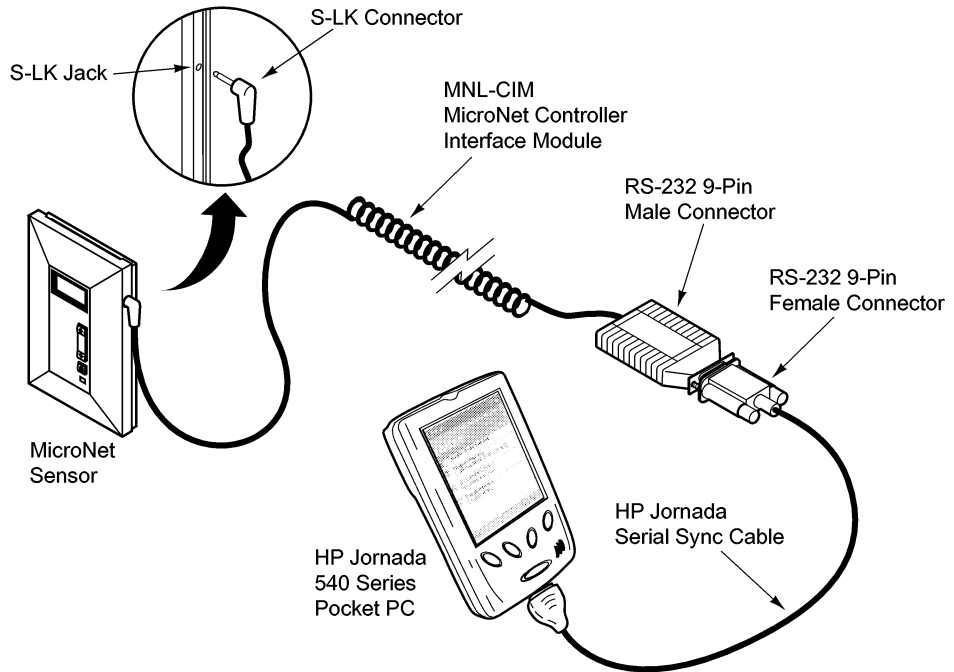

Figure-1 Connecting the MicroNet Controller Interface Module to the Pocket PC.
1. Connect the MNL-CIM's male RS-232 serial connector to the female RS-232 serial connector on the HP Jornada serial sync cable (Figure-1).